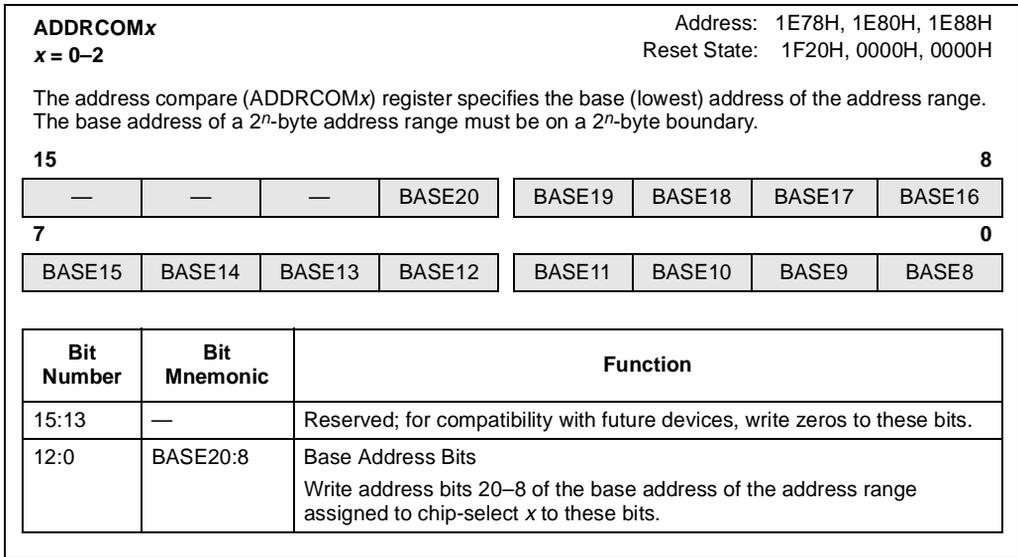
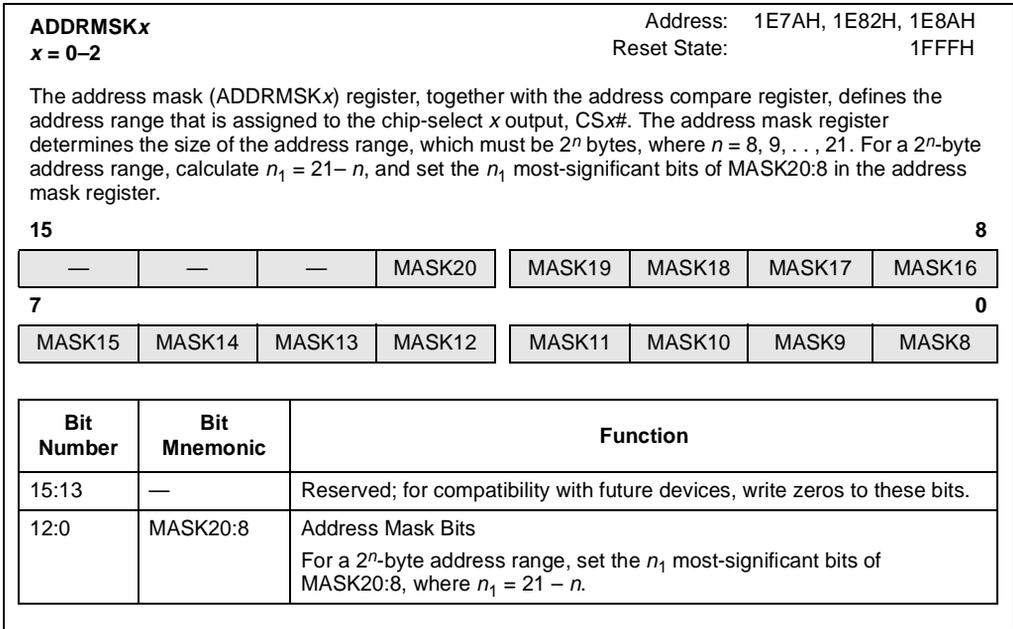

Figure 15-2. Address Compare (ADDR COM_x) Registers
Figure 15-3. Address Mask (ADDRMSK_x) Registers
This section describes the ADDR COM_x and ADDR MSK_x registers and how to set them up for a desired address range. The ADDR COM_x register (Figure 15-2) and ADDR MSK_x register (Figure 15-3) control the assertion of each chip-select output. The BASE $_{20:8}$ bits in the ADDR COM_x register determine the base address of the address range. The MASK $_{20:8}$ bits in the ADDR MSK_x register determine the size of the address range.
- Place address bits 20–8 of the base address into bits BASE_{20:8} in the ADDR_{COMx} register (Figure 15-2).
- For an address range of 2ⁿ bytes, set the n₁ most-significant bits of MASK_{20:8} in the ADDR_{MSKx} register (Figure 15-3), where n₁ = 21 – n.
The location and size of an address range are specified by the ADDR COM_x register (Figure 15-2 on page 15-10) and the ADDR MSK_x register (Figure 15-3 on page 15-7). The 8-Kbyte SRAM is assigned to address range 17E000–17FFFFH and uses chip-select output 2. Address bits 20–8 of the base address (17E000H) are written to the BASE20:8 bits in the ADDR COM_2 register, which then contains 17E0H.